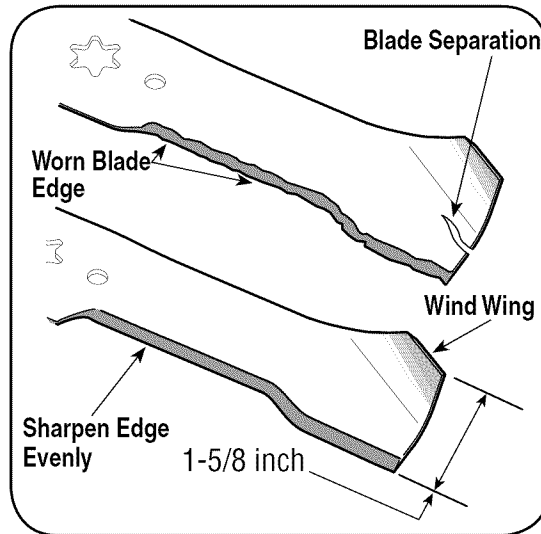

Figure 25
**IMPORTANT:** If the cutting edge of the blade has already been sharpened to within 1 5/8" from the edge, or if any metal separation is present, replace the blades with new ones. See Figure 25.